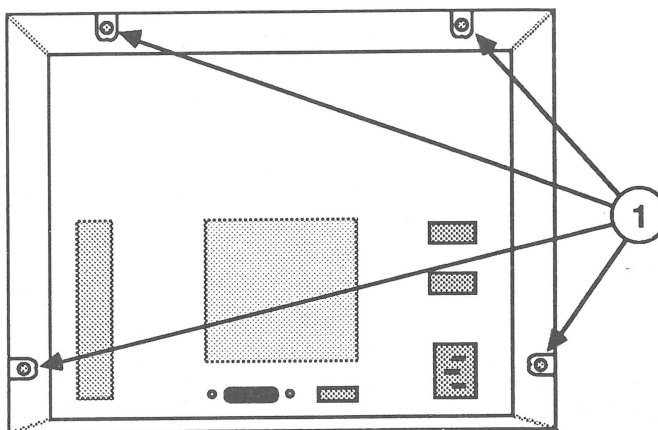

FIGURE 1
3. Remove the four case screws (Figure 1, #1).
3. Replace the four case screws (Figure 1, #1).